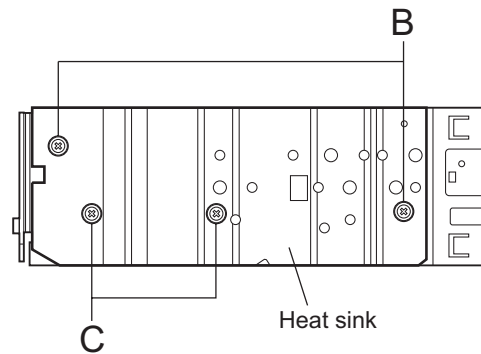

Fig.4
2.1.3 Removing the heat sink (See Fig.4)